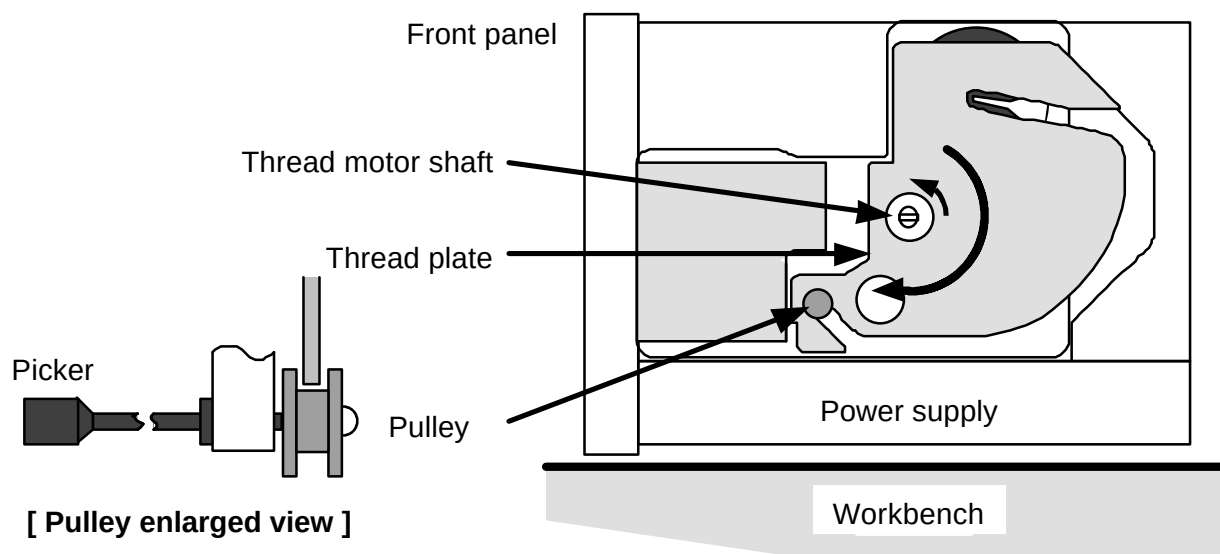

Figure 6-14 Threader
- 1) Always turn off the power. When the tape is loaded in the tape path, place the drive so the power supply is in the bottom position. (Refer to Figure 6-14.) Continue the following operation if the tape does not fall down from the tape path. When the tape is not loaded in the tape path, the drive can be placed in the regular position or position where the power supply is in the bottom.
- 3) Insert the 6mm-screwdriver or coin into the thread motor shaft shown in Figure 6-14. Be careful because the shaft may be damaged if an incorrectly sized screwdriver is used.